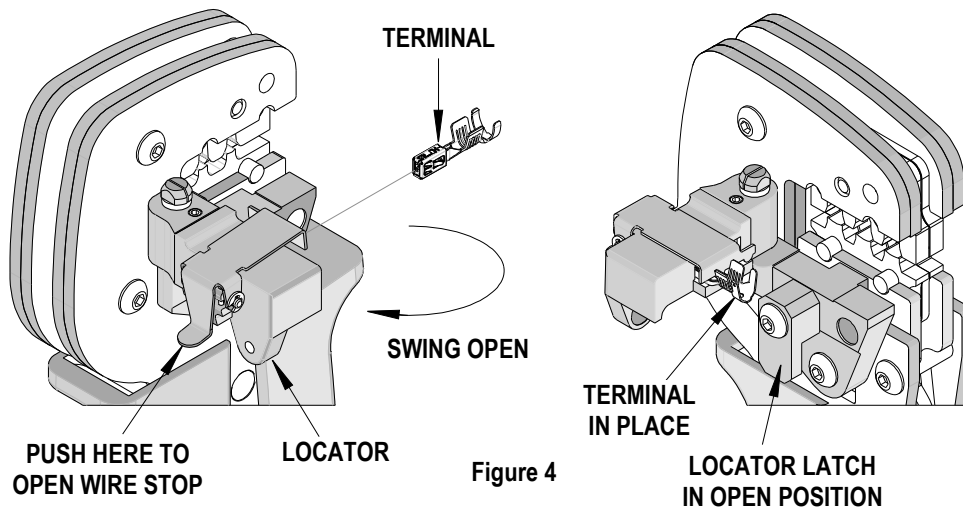

Figure 4
3. Swing the terminal locator away from the crimp tool shown in Figure 4.
4. Press down on the wire stop on the locator as shown in Figure 4. Insert the proper terminal into the proper nest opening. Make sure when choosing the nest opening, it will correspond with the correct profile on the hand tool.